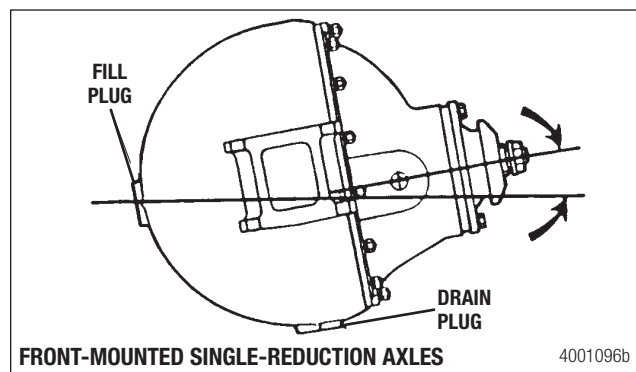

Figure 16.1
2. Remove the drain plug from the bottom of the axle and drain the oil. Figure 16.1.